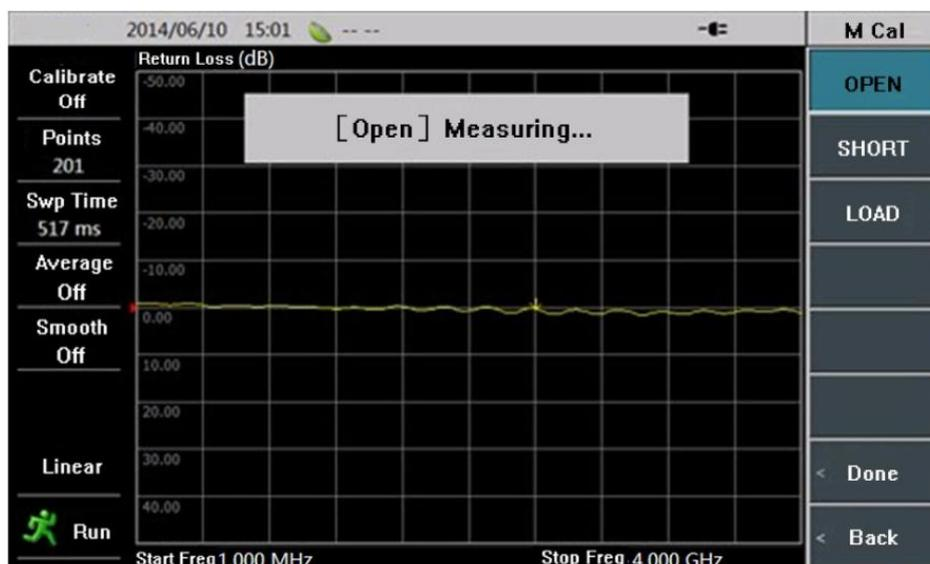

Figure 3.1 Calibration Open Standard
- 3) Connect the open standard to the calibration port, press [Open] key and then the prompt message saying “[OPEN] Measuring...” as shown in Figure 3.1: